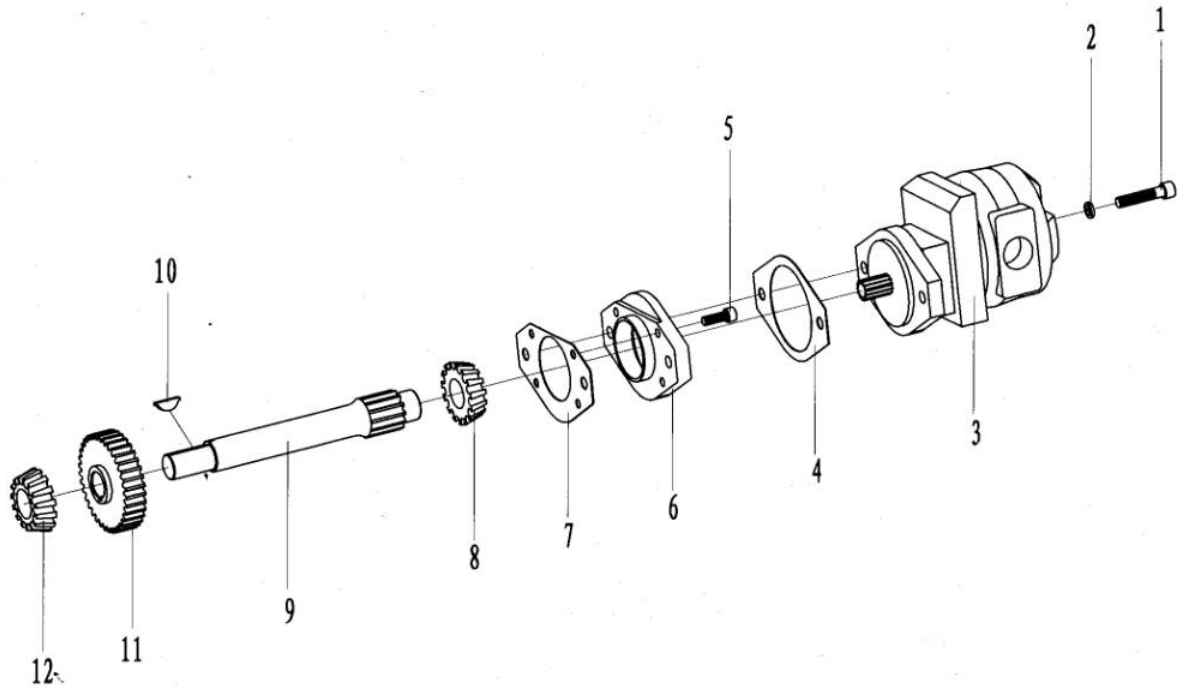

Fig. 18
10.5 Assembly of Drive ( Fig. 18, Table 5 )